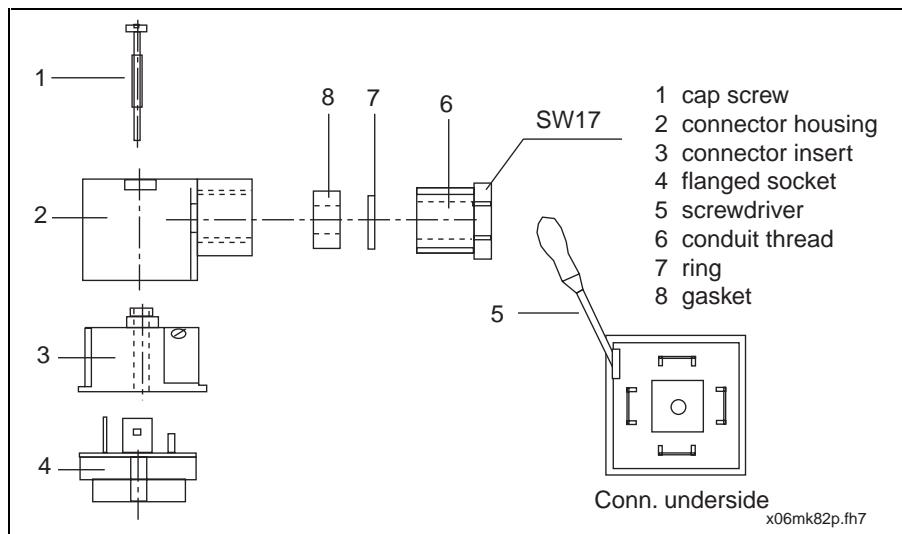

Fig. 13-6: Mounting the connecting cable of the blower connector
- ⇒ pull insert 3 with screwdriver 5 out (see Fig. 13-6) of connector housing 2.